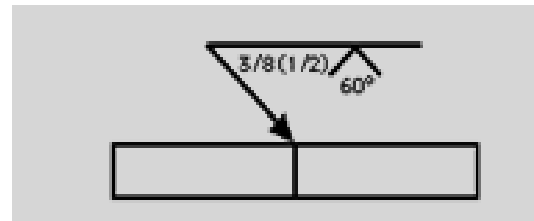

Figure 4
Study the welding symbols in Figure 3 and Figure 4. Answer the questions carefully.
- (b) Determine the type of weld of **Figure 4**. (2 Marks)
- (c) Explain the meaning of 3/8 (1/2) and 60° in **Figure 4**. (6 Marks)